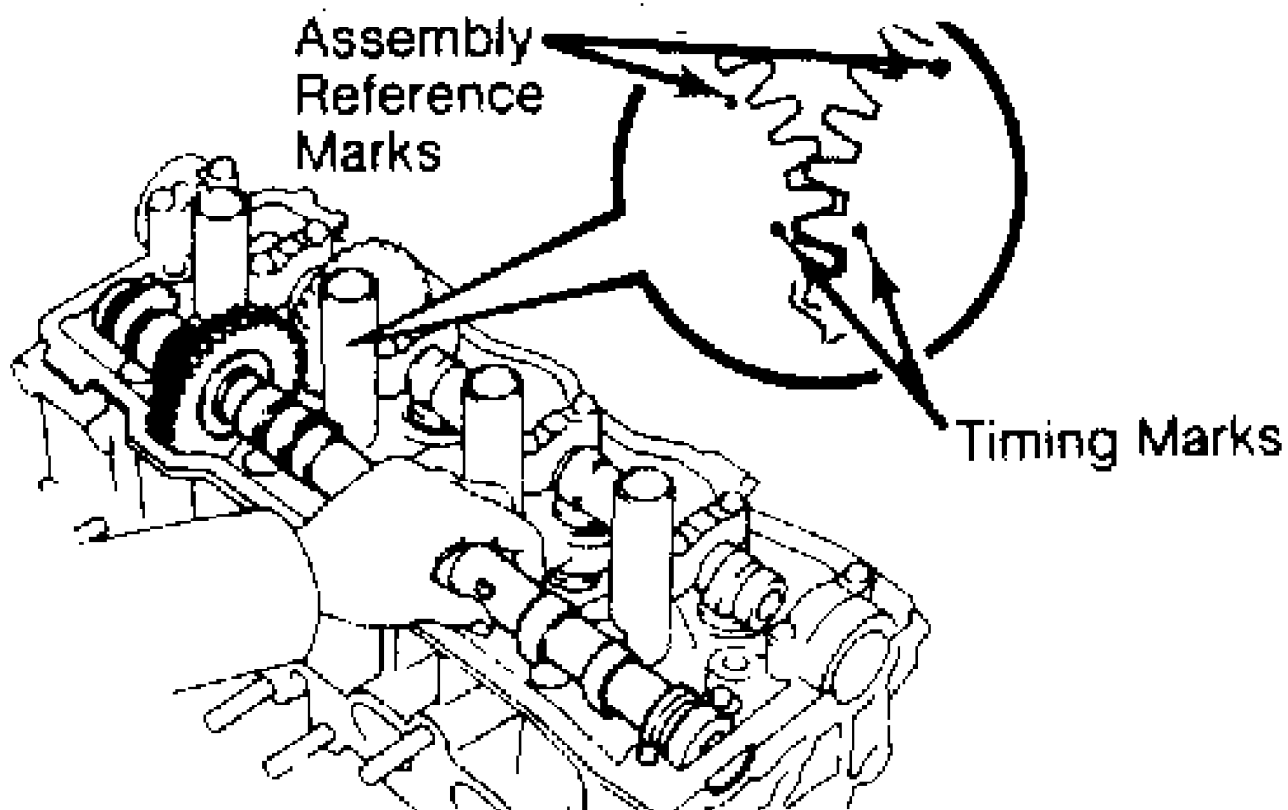

Fig. 19: Timing Reference Marks
**NOTE:** In addition to timing marks, assembly reference marks are present on each gear. Disregard these marks. See Fig. 19.